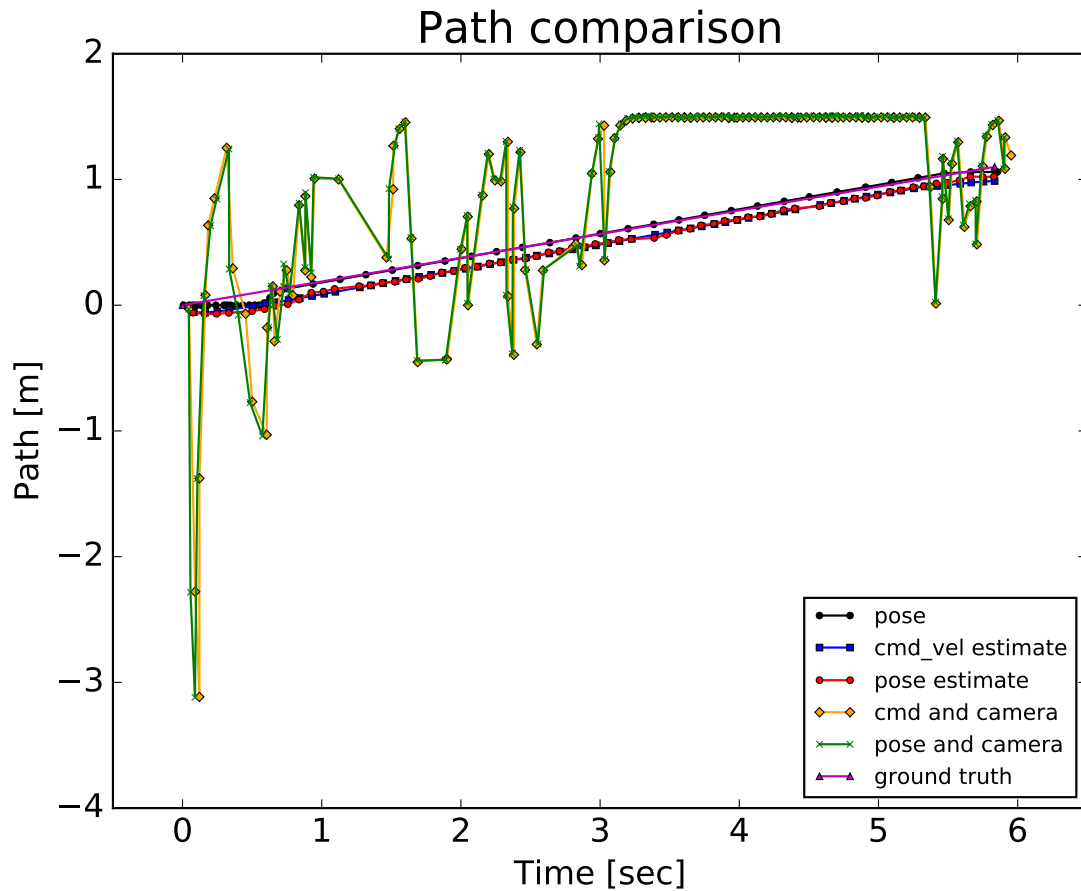
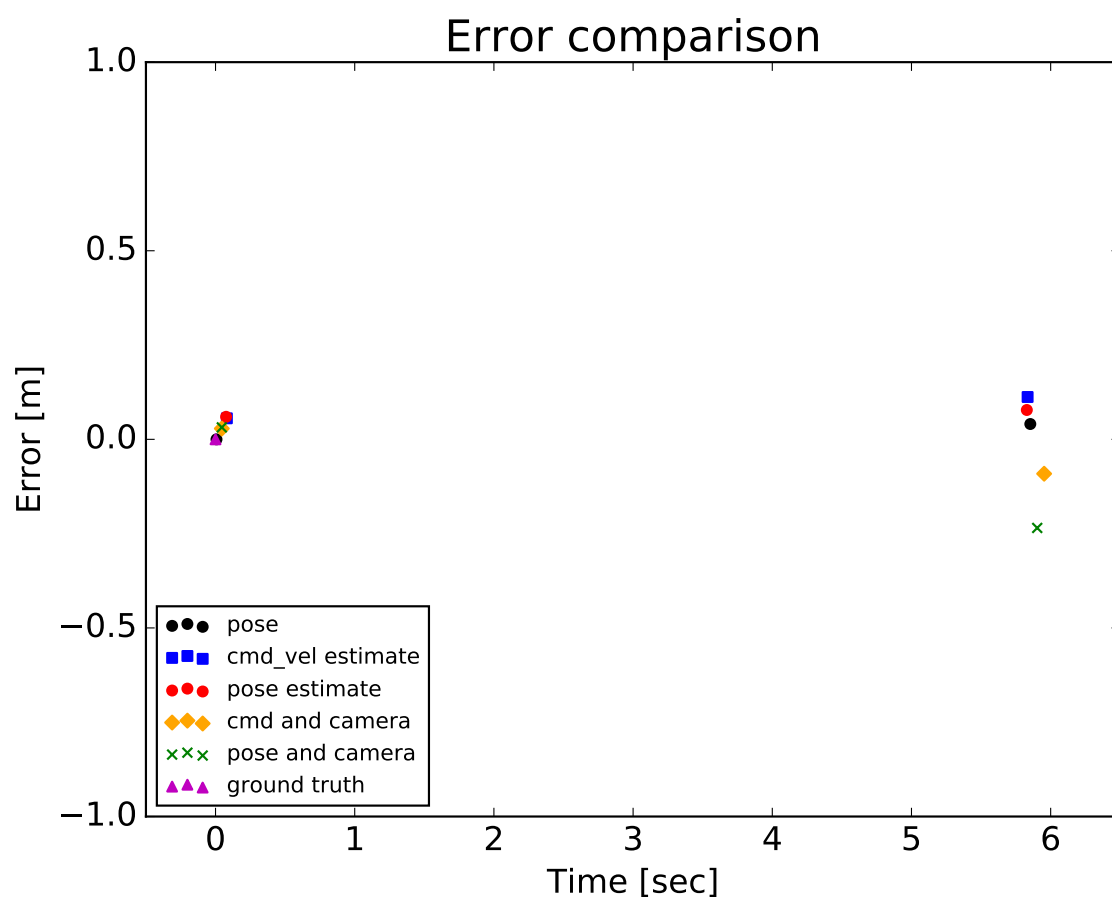

Figure 5: Task 2's result for path comparison as per each state estimate
Figure 6: Task 3's result (start and end) for error comparison as per each state estimate
- Results are as shown in and Fig. 5 and Fig. 6.